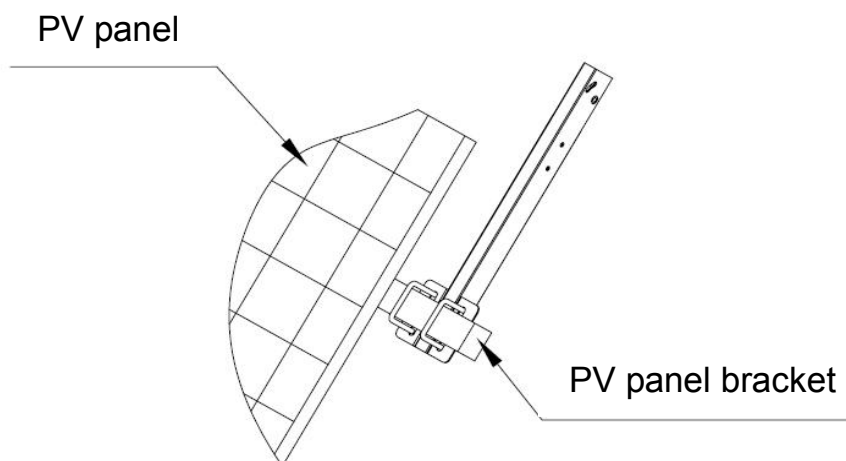

Fig 3-1 Securing diagonal supporting arm on PV panel bracket
(1) Secure the diagonal supporting arm at the PV panel bracket. Screws of PV panel bracket should be used, as shown in Figure 3-1.